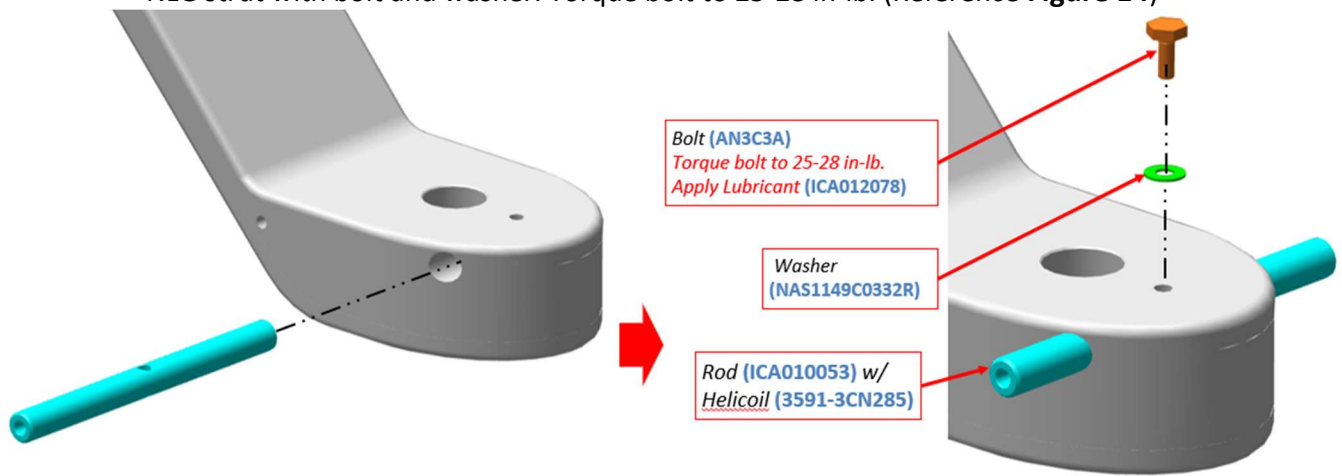

Figure 14. NLG Strut Hardware
- a. Remove the bolt, washer, and rod which engage the doors from the NLG strut. (**Figure 14**)
- h. Install rod into NLG strut: Using isopropyl alcohol, clean surfaces where lubricant will be applied. Apply lubricant (ICA012078) liberally to threads and shank of bolt. Install rod into NLG strut with bolt and washer. Torque bolt to 25-28 in-lb. (Reference **Figure 14**)